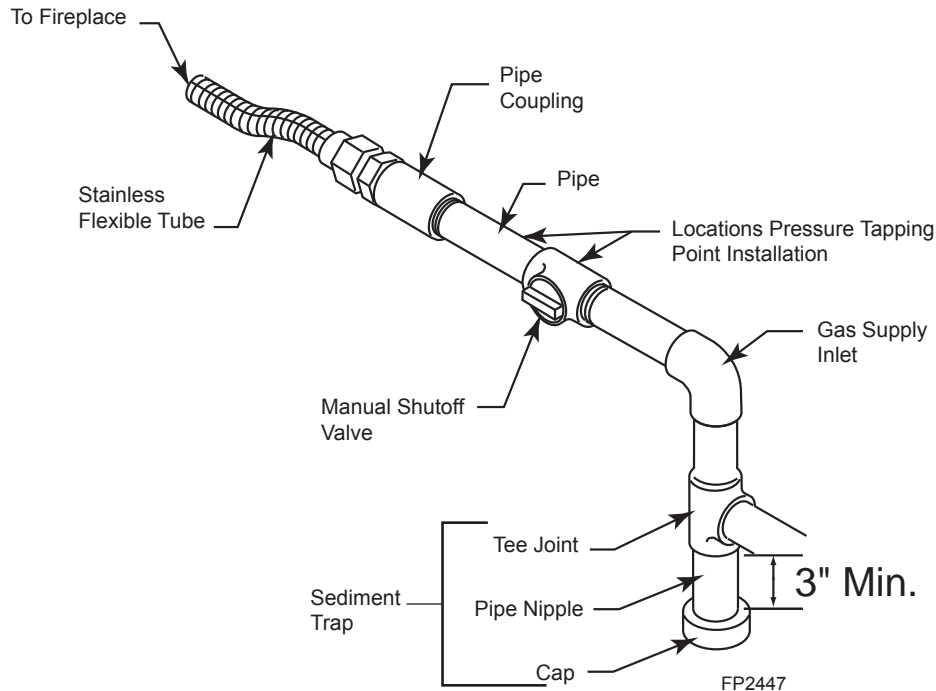

Figure 7 – Gas Connection
4. Plumb gas line. Refer to the *Connect the Gas* (page 11, Figure 7) section found in this manual. (Gas connections should only be performed by an experienced, licensed/certified service person).
A manual shutoff valve must be installed upstream of the appliance. Union tee and plugged 1/8" NPT pressure tapping point should be installed upstream of the appliance. Figure 7
A sediment trap should be installed upstream of the pipe to appliance controls and burners. Failure to do so could prevent the appliance from operating reliable. Figure 7